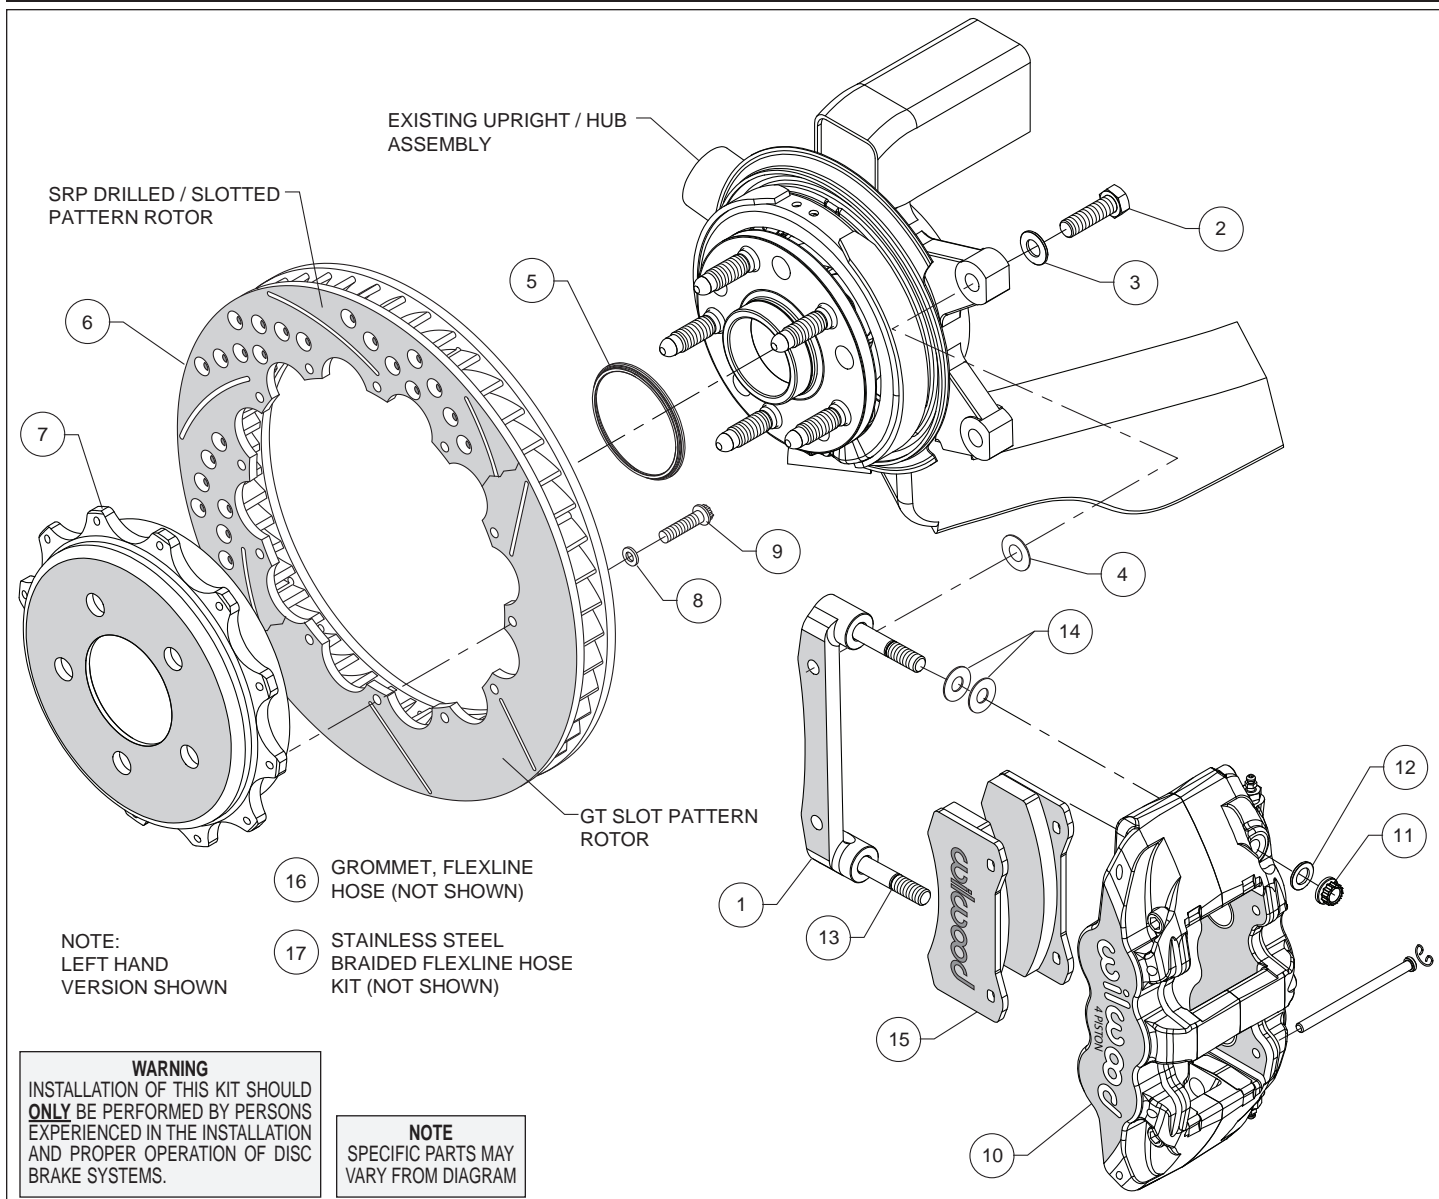
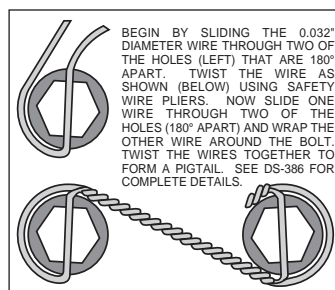

Figure 1. Typical Installation Configuration
Figure 4. Safety Wire Diagram
**Assembly Instructions** (numbers in parenthesis refer to the parts list and Figure 1 on the preceding pages):
- The caliper mount bracket (1) should initially be installed with clean, dry threads on the mounting bolts. Orient the bracket as shown in Figure 1, and Photo 1, and install using washers (3) and bolts (2). Initially place one shim (4) on each bolt between the bracket and upright, Figure 1. Temporarily tighten the mounting bolts. **NOTE:** The bracket must fit squarely against the mount bosses on the upright. Inspect for interference from casting irregularities, machining ridges, burrs, etc. Later, after the caliper alignment has been checked, the mount bolts will be secured using red *Loctite*® 271.
- Orient the rotor (6) and the hat (7) as shown in Figure 1 and Photo 2. Attach rotor to hat using bolts (9) and washers (8). Using an alternating sequence, apply red *Loctite*® 271 to the threads, and torque to 140 **in-lbs**. For an added measure of security, the bolts may be safety wired using standard 0.032 inch diameter stainless steel safety wire as shown in Figure 4. Please refer to Wilwood's data sheet DS-386 (available at [www.wilwood.com/Pdf/DataSheets/ds386.pdf](http://www.wilwood.com/Pdf/DataSheets/ds386.pdf)) for complete safety wire installation instructions.
- Slide the rotor registration adapter (5) onto the axle register on the axle hub with the smaller O.D. facing outward, Photo 3. Slide the hat/rotor assembly onto the axle hub. **NOTE:** The hat must fit flush against the axle hub flange or excessive rotor run out may result. Install three lug nuts (finger tight) to keep the hat/rotor assembly in place while continuing with the installation, Photo 4.
- NOTE:** This kit contains distinct right and left hand calipers. The calipers must be mounted with the bleed screws pointing upward. Lubricate the caliper mounting studs (13) with lightweight oil. Initially place two .030" thick shims (14) on each stud as shown in Figure 1 and Photo 5. Mount the caliper (10) onto the bracket (1) using lock nuts (11) and washers (12), Figure 1. Temporarily tighten the lock nuts and view the rotor through the top opening of the caliper. The rotor should be centered in the caliper, Photo 6. If not, adjust by adding or subtracting shims (4) between the bracket and the upright. Always use the same amount of shims on each of the two mounting bolts. Once the
- Remove the two pad retaining pins from the caliper (10) by carefully popping out the pin retaining clips and sliding out the pins. Insert the brake pads (15) into the caliper from the bottom, Figure 1 and Photo 7. With the friction material facing the rotor, secure the brake pads in place with the pad retaining pins and clips, Photo 8. Reinstall the caliper onto the caliper mounting bracket and temporarily tighten the lock nuts. Check that the top of the brake pad is flush with the outside diameter of the rotor, Photo 9. If not, adjust by adding or subtracting shims (14) between the caliper and the bracket. After the caliper pad height is set, torque the caliper lock nuts (11) to 47 ft-lb.